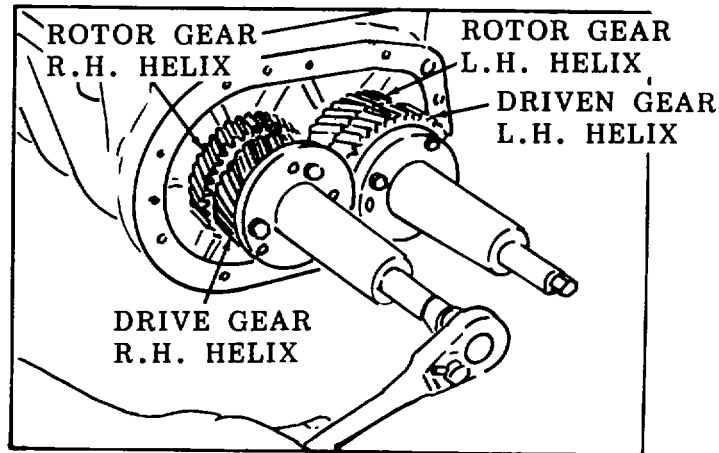

**Figure 3-29. Drive Gears, Removal.**
- (6) Refer to figure 3-29 and remove bolts (1), three flat washers (2), three lockwashers (3), and rotor and drive hub (4).
- (7) Remove three bolts (5), three lockwashers (6), three flat washers (7), and two plates and spacers (8).
- (8) Remove bolt (9), washer (10), and retainer (11).
- (9) Remove two bolts (12), washer (13), and fuel pump coupling disc (14).
(11) Remove drive gear (15, figure 3-29 and rotor gear (16) simultaneously.
(12) Remove shims (17, figure 3-29) from the rotor shafts or inner face of the gears and note the number and thickness of shims used with each gear.